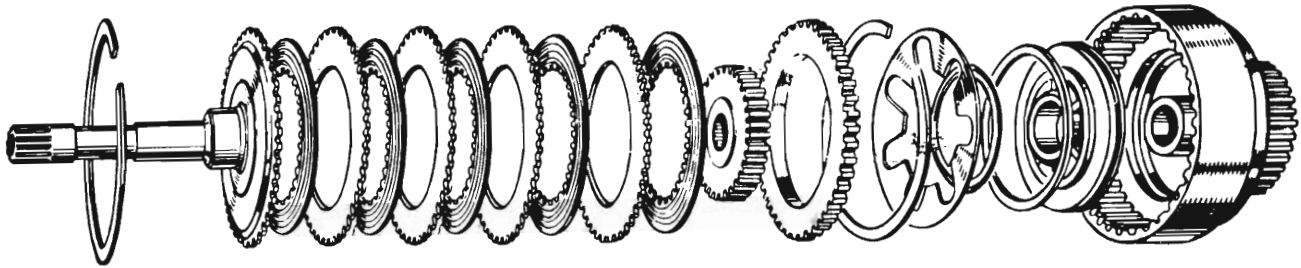

Fig. 37 - Front clutch assembly (disassembled view)
(1) Remove snap ring (using screwdriver) from front clutch retainer.
(2) Remove the input shaft assembly and disassemble the clutch components — refer Fig. 37 (discs are interchangeable with rear clutch). Refer to specifications for correct number of plates and discs.